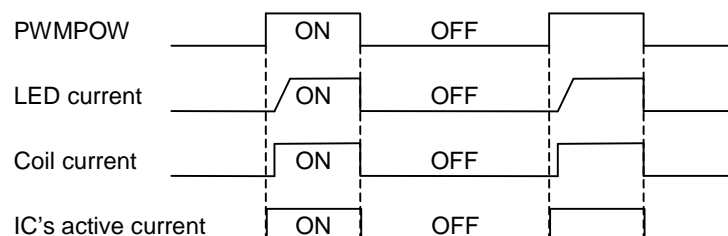

Figure 43.
2) Power control PWM control is controlled by providing PWM signal to PWMPOW, as it is shown Figure 43. The current setting set up with PWMDRV logic is chosen as the H section and the current is off as the L section. Therefore, the average LED current is increasing in proportion to duty cycle of PWMPOW signal. This method is, because IC can be power-off at off-time, the consumption current can be suppress, and the high efficiency can be available, so it makes it possible to brightness control until 50 μ s (MIN1% at 200Hz). And, don't use for the brightness control, because effect of power ON/OFF time changeover is big under 50 μ s ON time and under 50 μ s OFF time. There is no effect of ON/OFF changeover at 0% and 100%, so there is no problem on use.